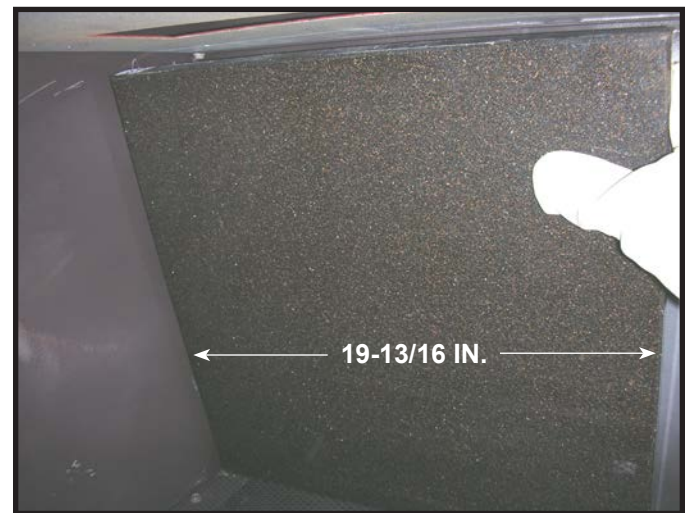

Figure 6. Placing Back Panel Piece.
2. Measure granite to ensure you are installing the pieces in the right orientation. Back panel pieces are to be placed first. These pieces are wider than they are tall. Install so that width is 19-13/16 inches. Begin installing pieces left to right. Place granite into firebox, bottom side first, then tilt top backward into position. Place the first piece on the left and move to right as you add the other pieces. See Figure 6.